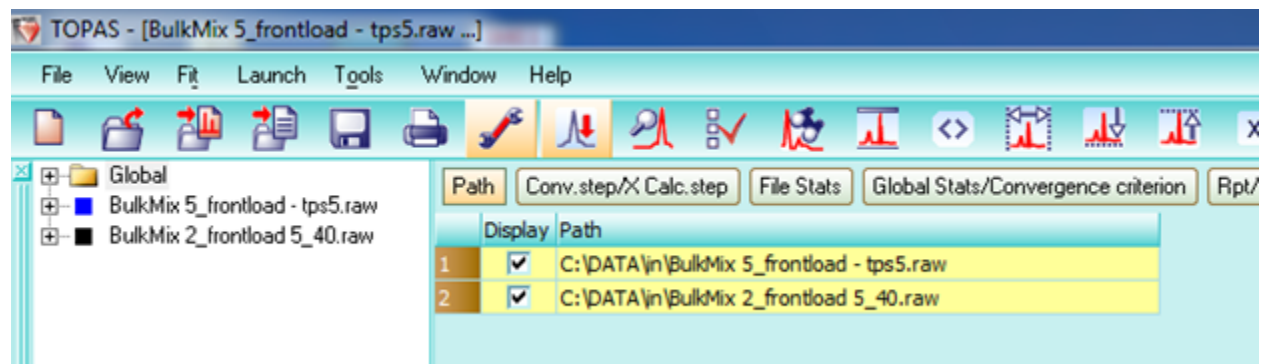

Figure 16. Add STR files to multiple scans at once
1. In the Parameter Window select 'Global'. Then in the display window hit 'ctrl' and select your scans, highlighting them as seen below in *Figure 16*.